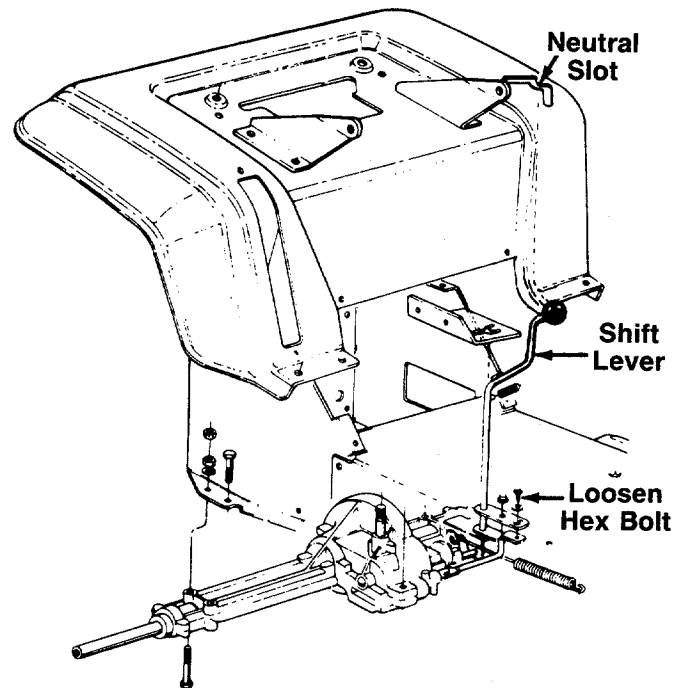

FIGURE 15.
- Loosen the bolt which secures the shift lever assembly to the shift lever adjusting link. See figure 15.
- Place the shift lever in the neutral slot. See figure 15.